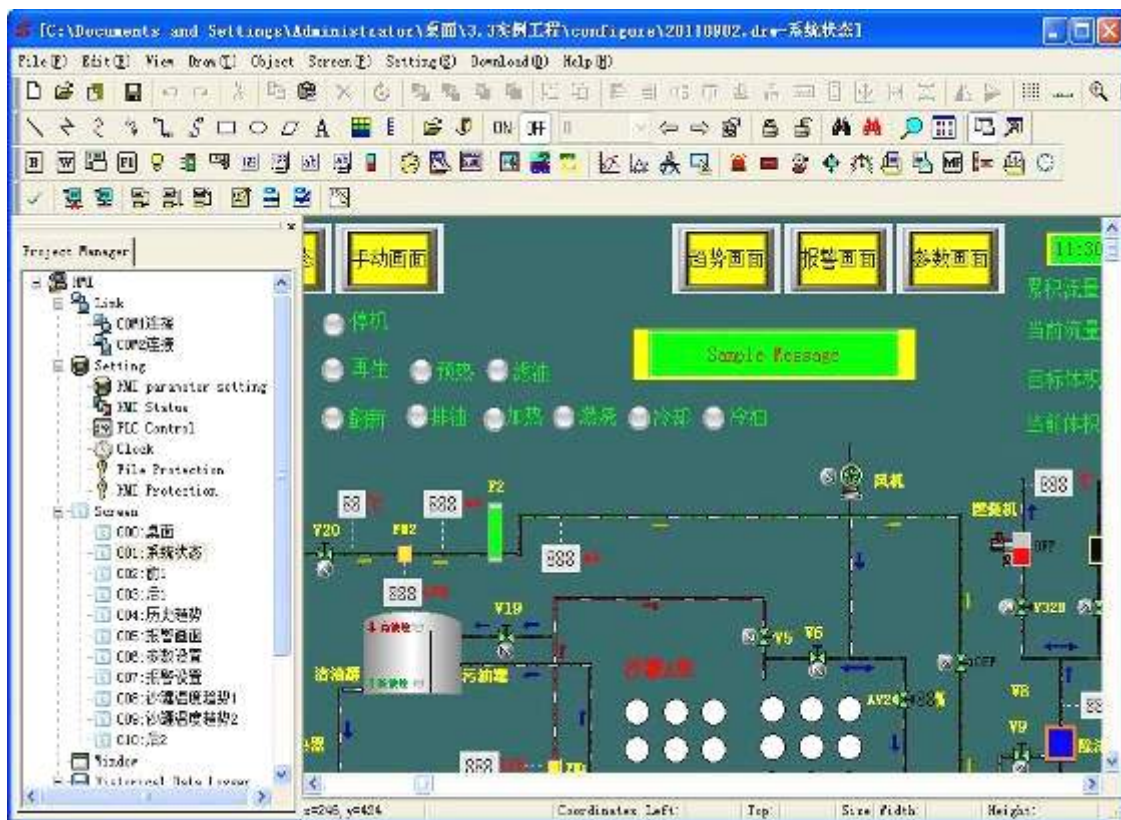

Figure 6-7 Edited project
- ✓ The creation method of other controls is same to previous introduction. Therefore, detailed description is not given again. After setting attribute of all controls, click "Save" to save the project. Then, select "Off-line Simulation" in menu "Download" of menu bar, as shown in figure 6-7.